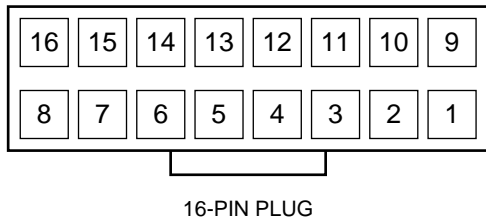

Fig. 18—Wiring Harness 16-Pin Plug
- If voltage is present, jumper screw terminal R-Y/Y2 on circuit board and check for 24v between pin-12 and pin-14 on 16-pin plug. (See Fig. 18.) If voltage is present, replace harness.